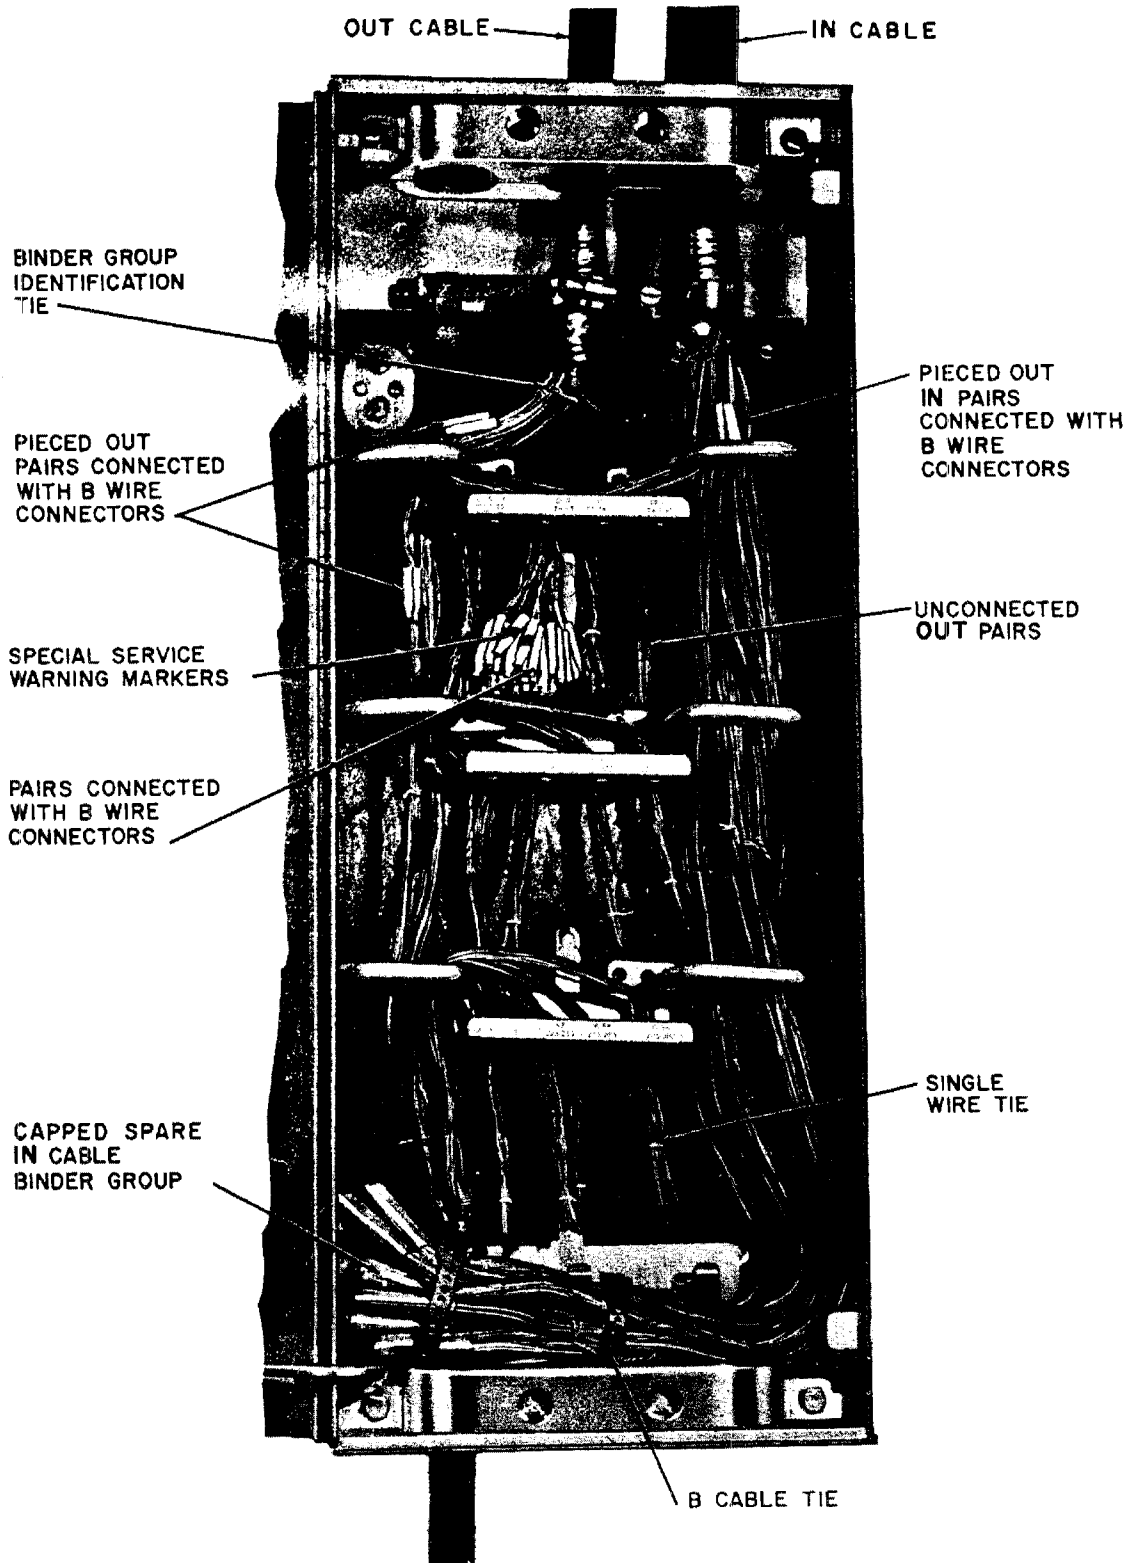
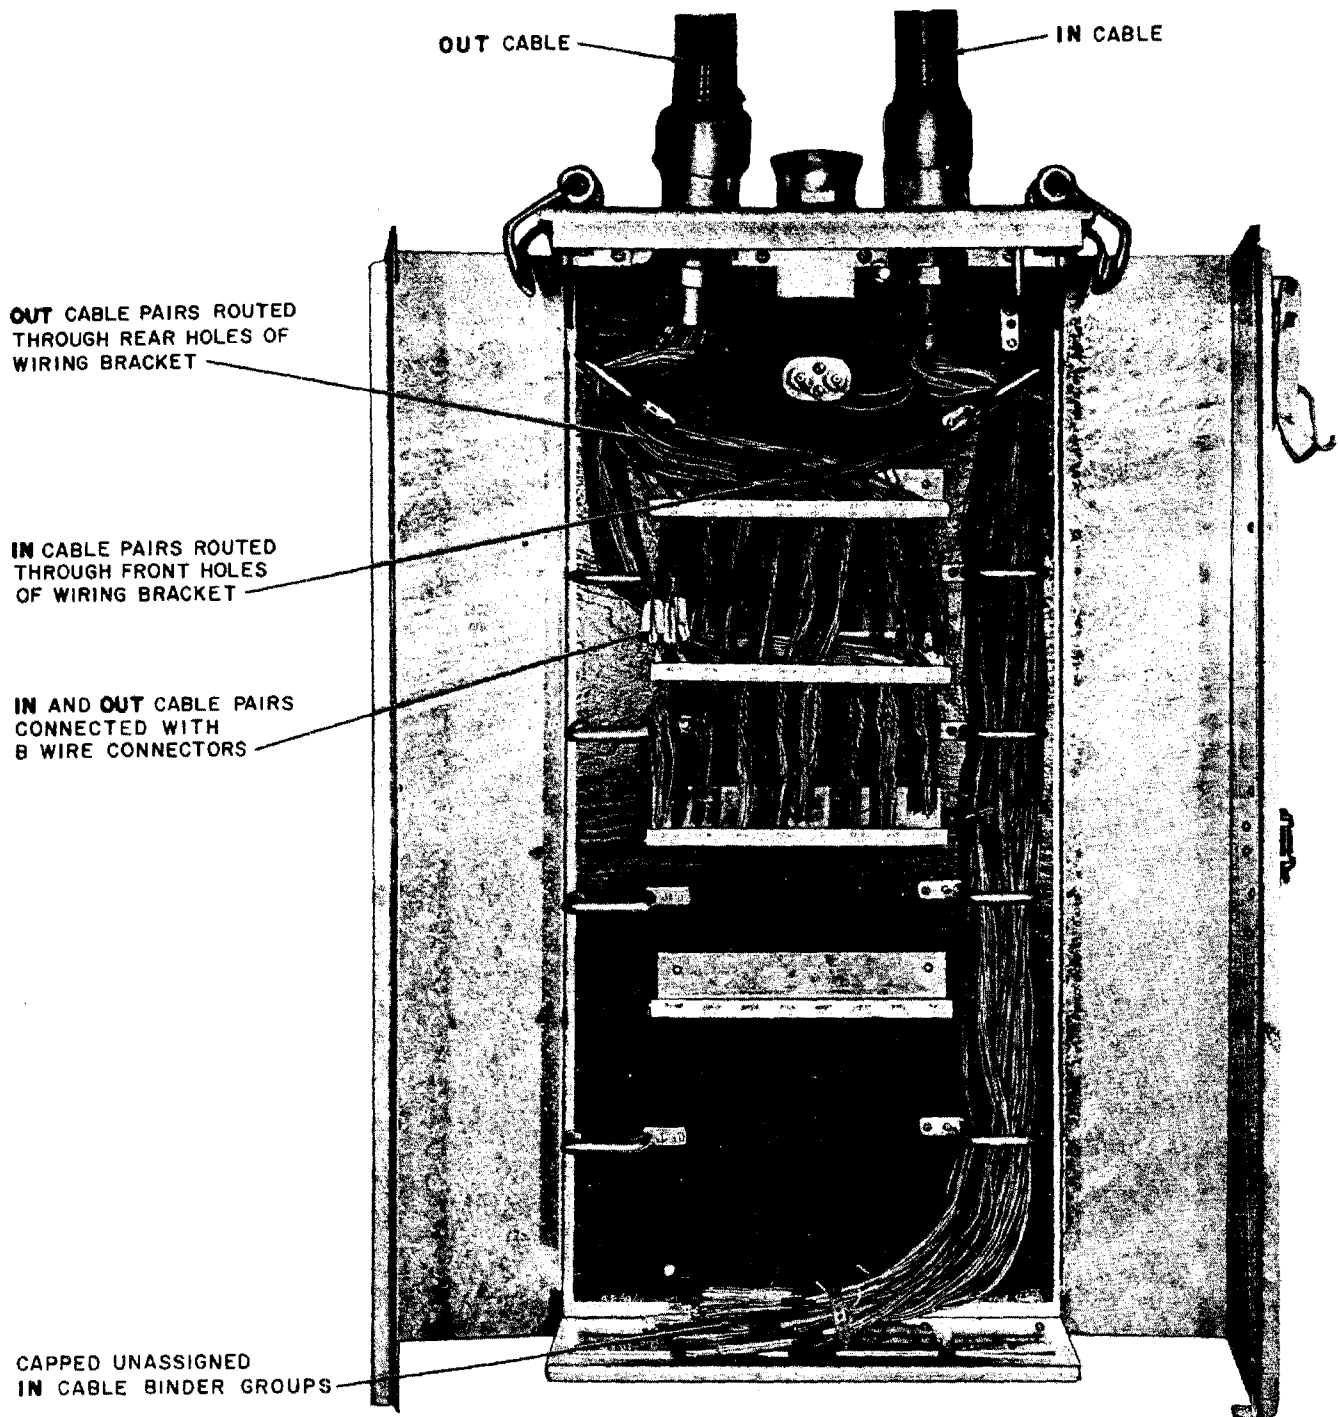

Fig. 3—5-Type Closure
Fig. 4—29-Type Cabinet
(b) *Pole- and Wall-Mounted Access Points*—The 5-type closures (Fig. 3) and the 29-type cabinets (Fig. 4) are used to enclose pole- and wall-mounted access points.
4.01 When cable pairs are used for special services, it will be necessary to identify the circuits at the time the pairs are connected by wrapping a red warning marker tape around each B Wire Connector as shown in Fig. 3.